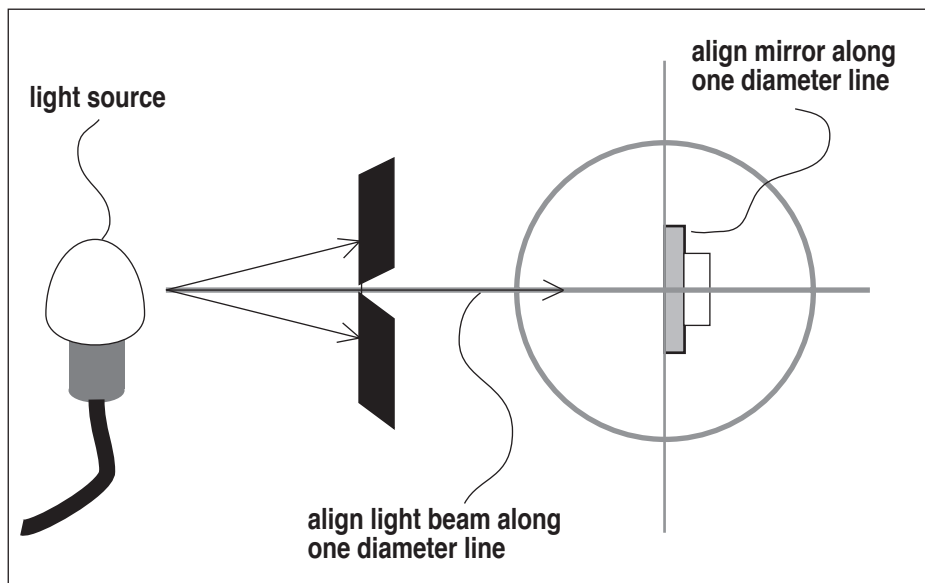

Figure 2
- Move the light source so that the light beam coincides with the diameter line marked “normal” on the Ray Table (see Fig. 2).